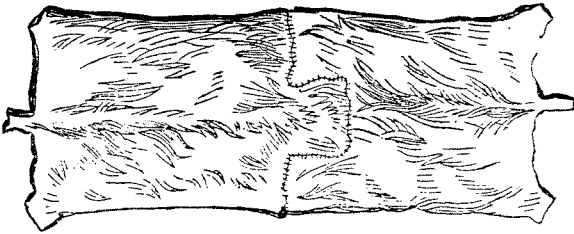

Fig. 4.
6. Kill *two* bulls, skin them, and in skinning, be careful to make your cuts in the skin down the rump to the hock of the animal, and down the brisket in front of the fore-leg to the knee, so as to have your skins as square as possible (fig. 4). Cut off the heads, and sew the skins together at the nape of